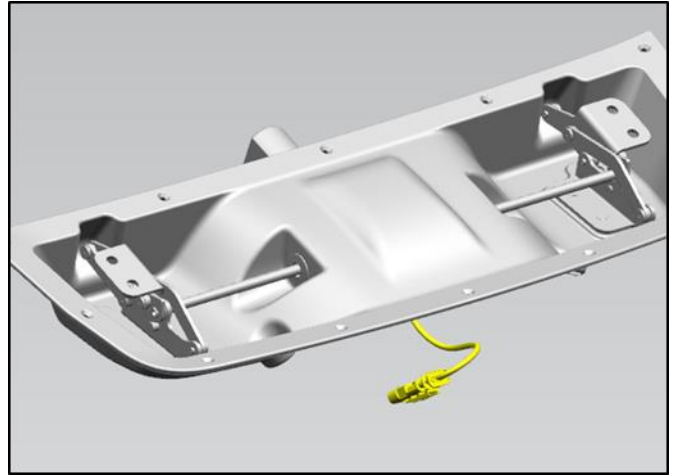

Figure 13
15. Connect the new spoiler mechanism to the wiring harness. (Refer to Figure 13.)